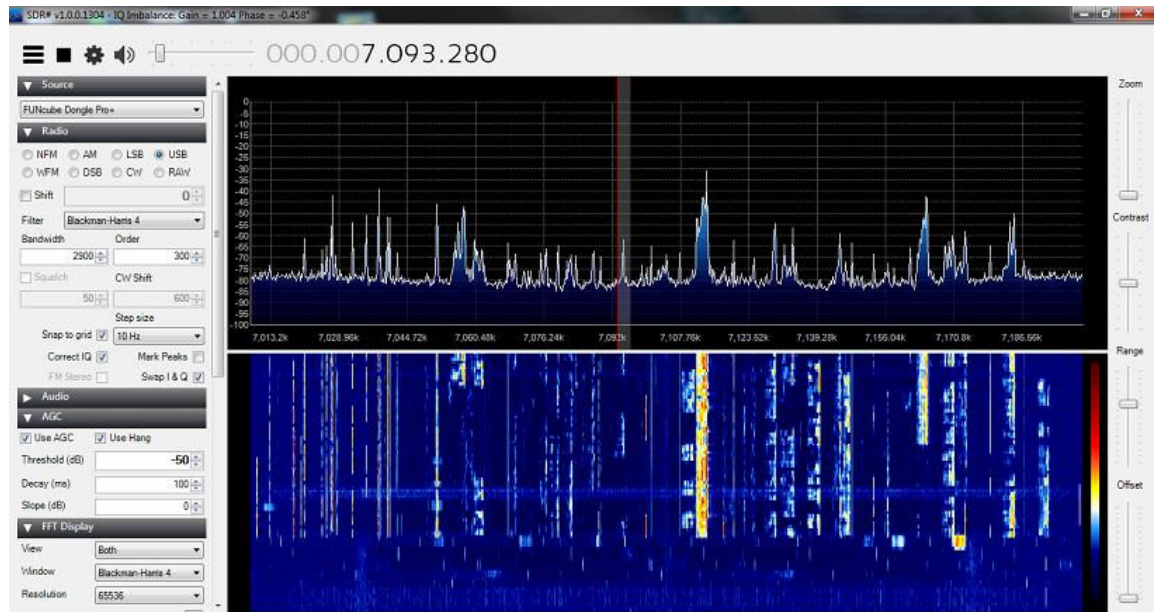

**Fig 9 – SDR display with PAT connected as IF Panoramic Adaptor**
- 7 Prepare a 115mm length of RG178 cable to make the connection between J3009 and the PAT input, and a 200mm length pre-terminated in an SMA plug for the output connection. Dimensions for preparing the ends of the cables are given in Table 1 and Fig 9. Do not pigtail the ends, but make them off as in Fig 4. See also details at the end of this note. Route both the PAT input and output cables underneath the FT847
In Fig 9, the bandwidth of the display is limited by the IF filter – this is what to expect when you use the J3009 connection for the PAT input (PAT input 1). You can see that the noise level is greater towards the centre of the displayed spectrum. Useful indications of signals can be seen out to approx +/- 25kHz of the frequency that the radio is tuned to. The advantage of this mode is that as you tune the radio, the signals move across the display. Once you have set the IF frequency on your SDR, the signal your radio is tunes to will always be centre screen on the SDR waterfall.